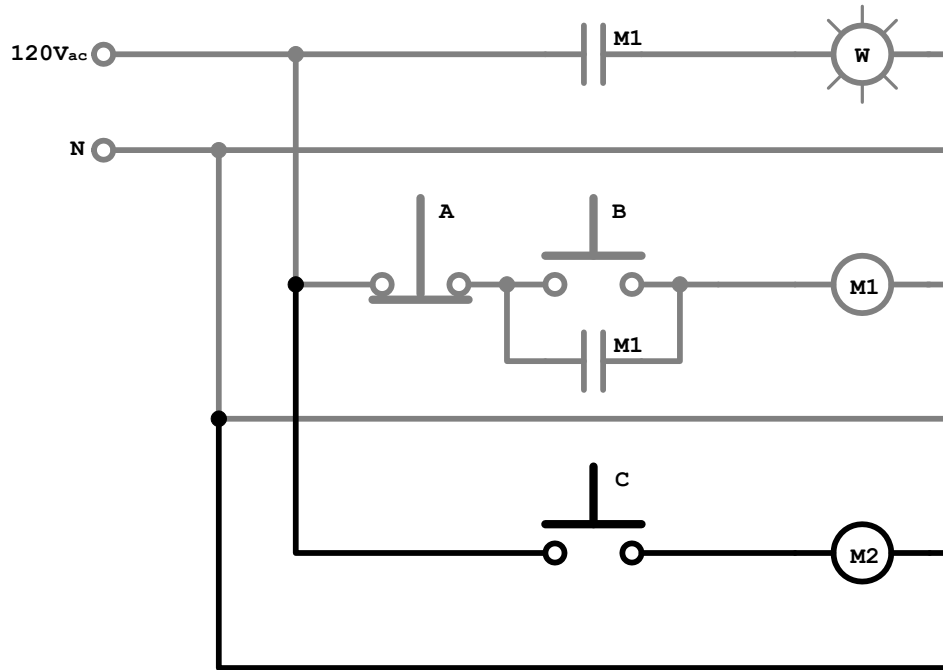

Figure 2.2a – Modified Controller #2a
4. Modify the original control circuit by wiring in the additional **NO Pushbutton** and **Field Coil** that appear **black** in Figure 2.2a. Note that the original components appear grey in the figure.